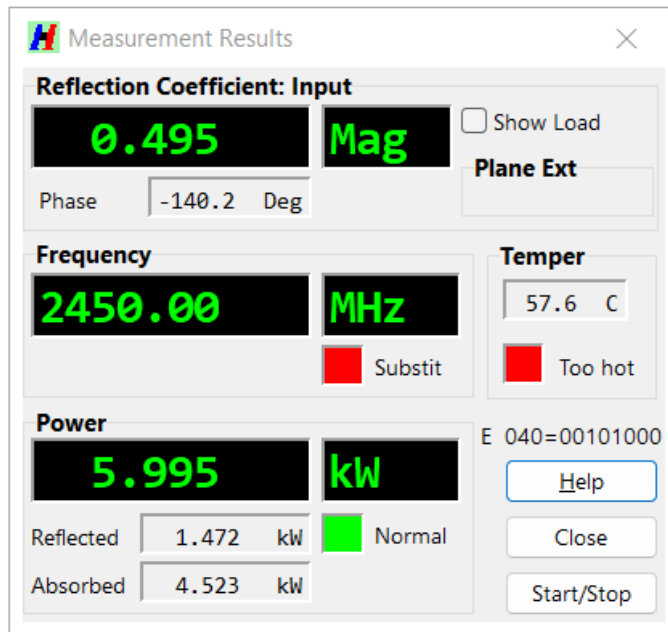

Fig. 20. Full-size (Maxi) Results window.
The Full-size (Maxi) Results window (Fig. 20) displays measured data numerically. Basic results and errors or warnings can be read from a longer distance. The data are grouped in several boxes.
- If the measured frequency falls outside of the tolerance range, a substitute frequency is displayed instead, the associated LED lamp turns red, and the label reads **Substit** (as shown in Fig. 20).
The Homer Error Byte (HER) is displayed as **E** in decimal and binary format. Based on breakdown of HER, the three rectangular “LED lamps” indicate by their color and adjacent text whether the measurement conditions are normal (green) or whether an error or warning condition has occurred. An example of one error (temperature too high) and two warnings (Substitute Frequency and Low Signal) is shown in Fig. 20.